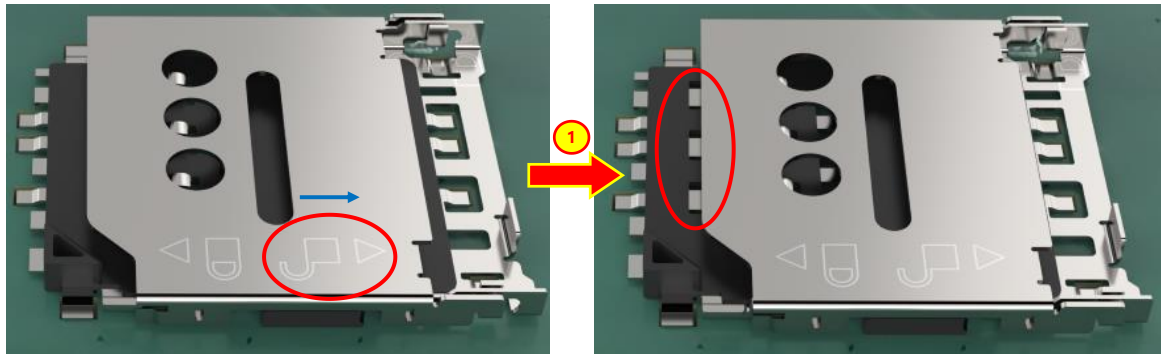

Figure 4-10: Slide the Upper Cover to the Release Position
Step 1: Slide the upper cover to the release position according to the direction of the unlocking symbol (See Figure 4-10).